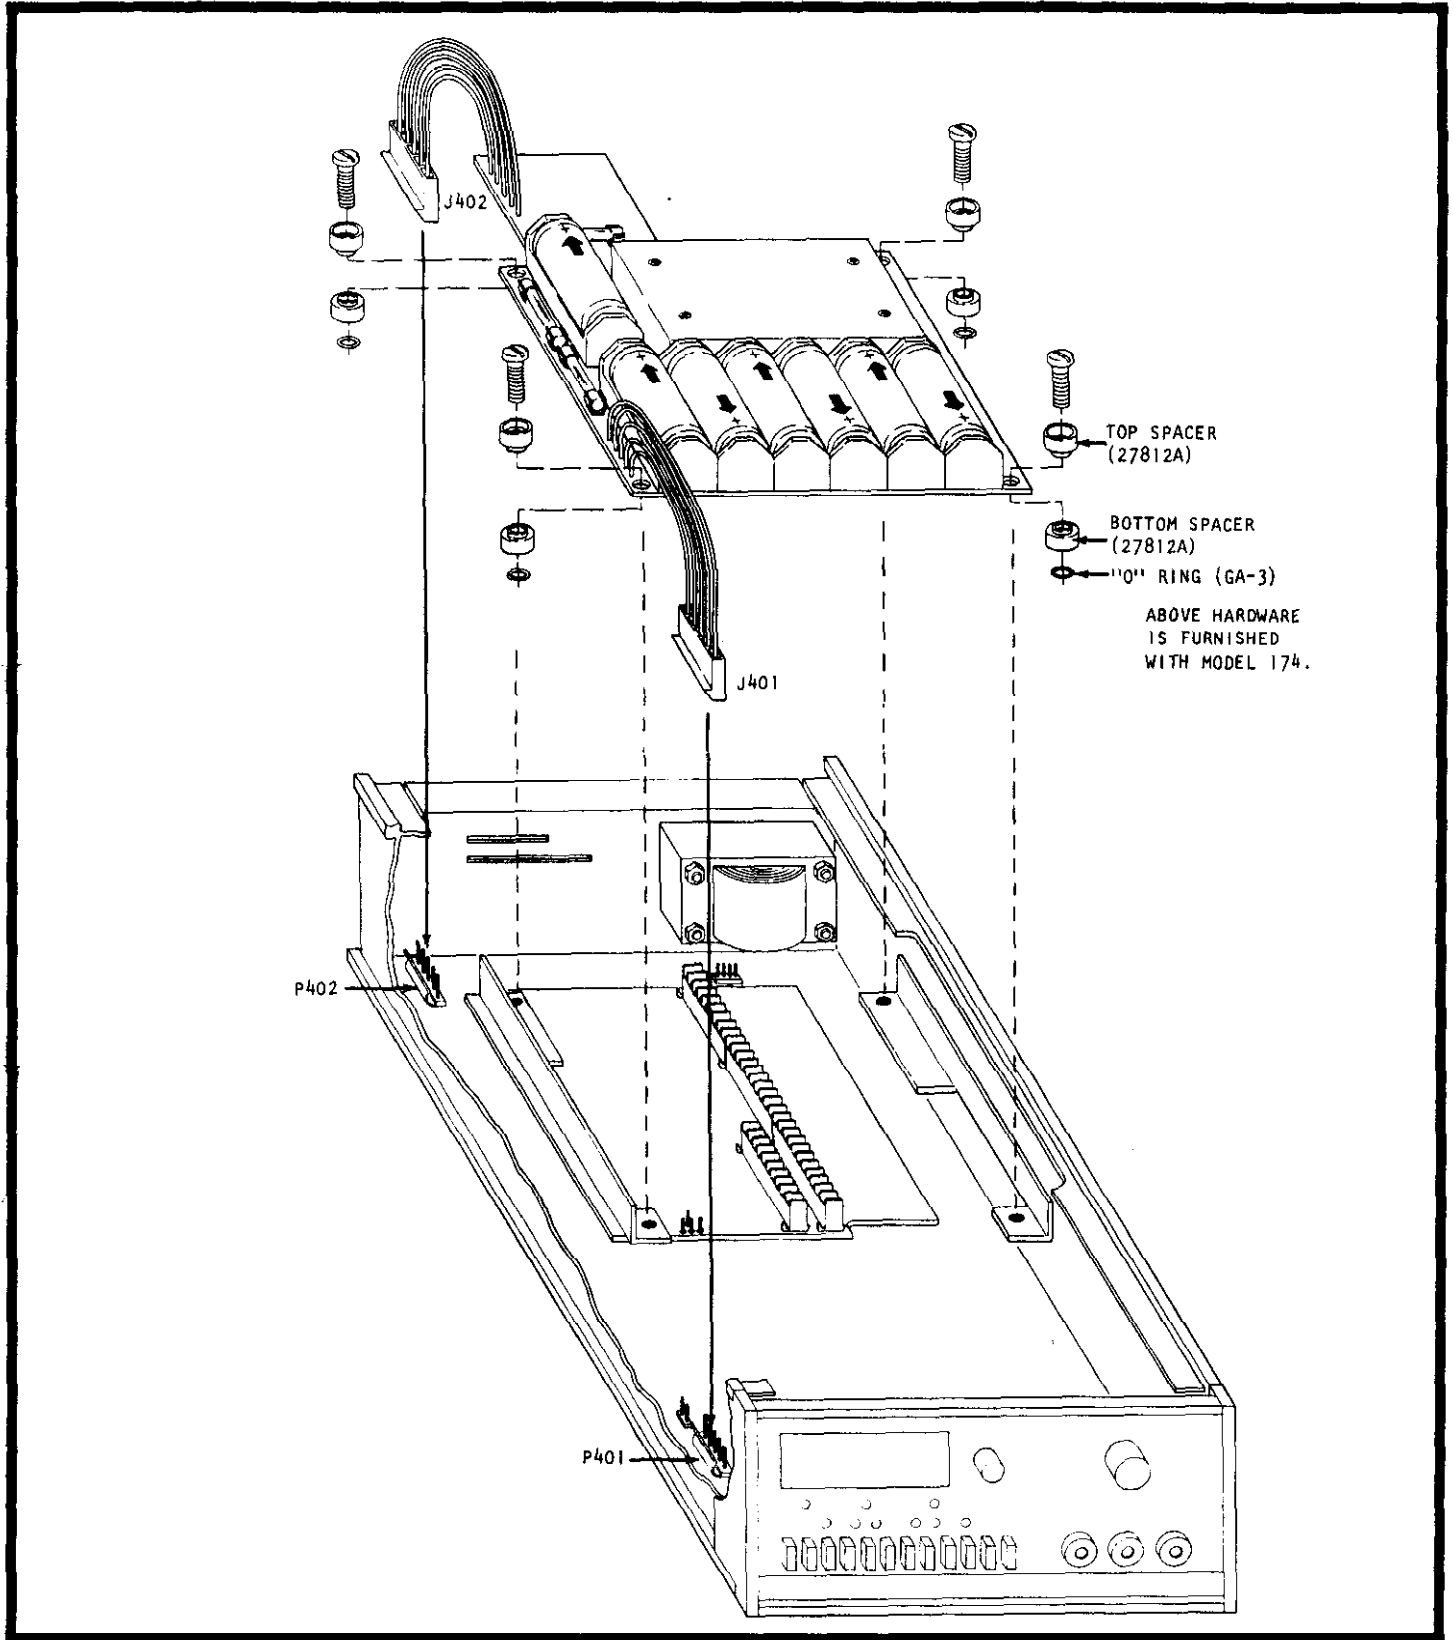

FIGURE 9. Installation of Model 1728.
3. To install the Battery Pack, loosen four Phillips screws on the top cover as shown in Figure 2. Carefully remove the top cover to gain access to the printed circuit board. Temporarily remove the plastic spacers installed on the Model 174 chassis. Separate the two halves of the spacer and reinstall on the Model 1728 board as shown in Figure 9. The rubber "O" ring retains the spacer and screw assembly. Plug the two 5-wire connectors (J401, J402) into the mating receptacles (P401, P402) taking care to orient the connectors as shown. If the Model 1740 AC Option is installed, it will be necessary to temporarily remove the 1740 pc board to permit access to connector P401 as in Figure 9. Place the Model 1728 in position on the spacers with the pack oriented as shown in Figure 9 and tighten down the four screws which hold the Model 1728 to the Model 174 chassis. Replace the top cover and tighten down the four Phillips screws.